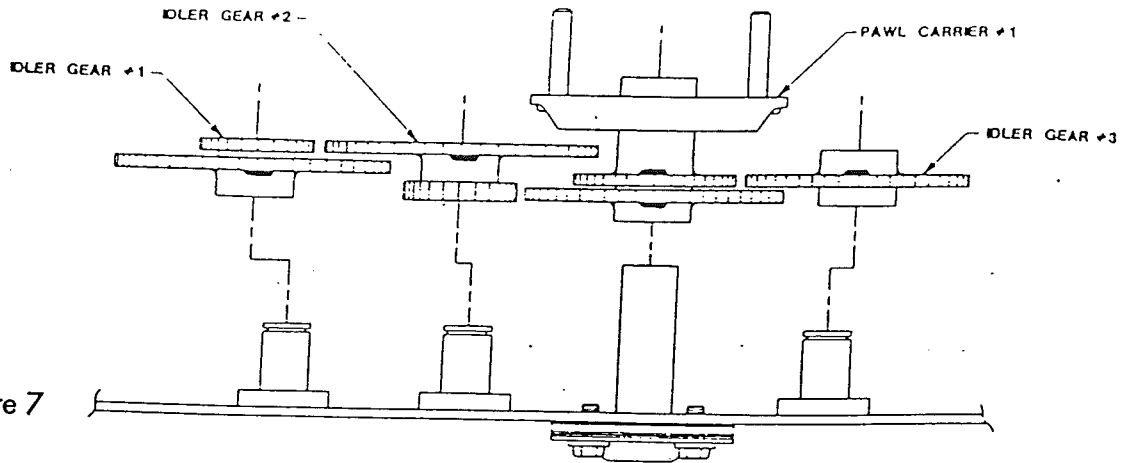

Figure 7
2. Pawl carriers 2, 3, 4 and 5 can be reassembled by replacing them over the nylon bearing in the same way they came off. Pawl carrier 1 and idler gears 1, 2 and 3 must be assembled at the same time as shown in figure 7.